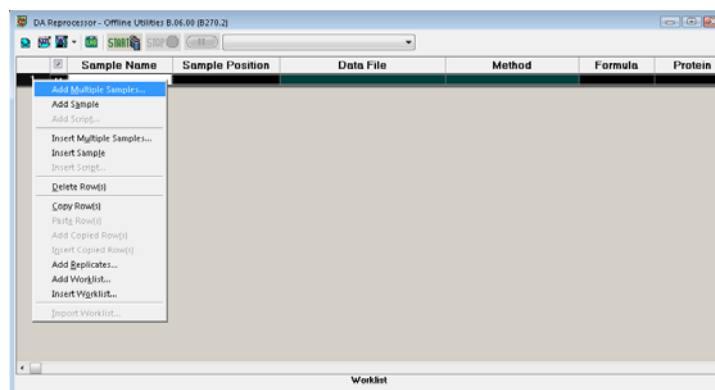

Figure 40 Adding samples to the MassHunter DA Reprocessor worklist
- b Right-click the top left cell of the worklist and click **Add Multiple Samples** as shown in Figure 40.